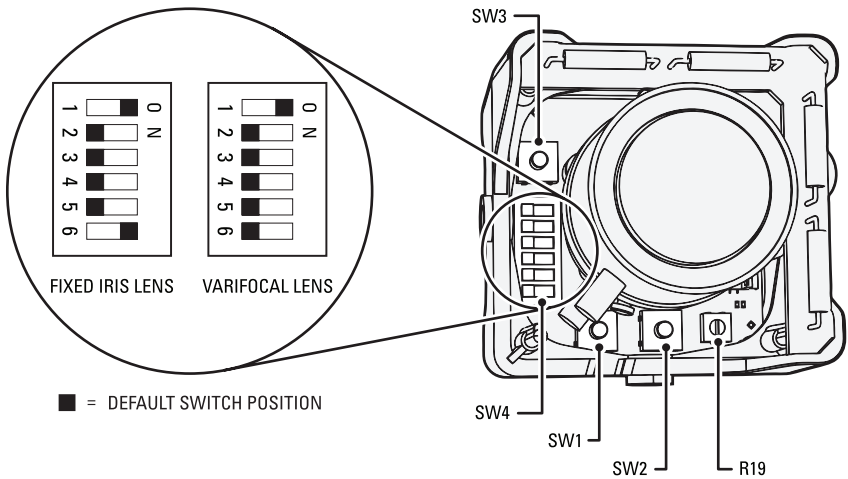

Figure 10. Adjusting the IS110-DN/CH Series Camclosure
Refer to Figure 10 to adjust the IS110-DN or IS110-CH model.
To adjust the auto iris DC drive level (refer to Figure 10 on page 20):
2. Select the camera to synchronize. Use buttons SW1 and SW2 to synchronize the camera to the reference camera (refer to Figure 10 on page 20). SW1 increases vertical phase; SW2 decreases vertical phase.
To manually correct defective pixels (refer to Figure 10 on page 20):